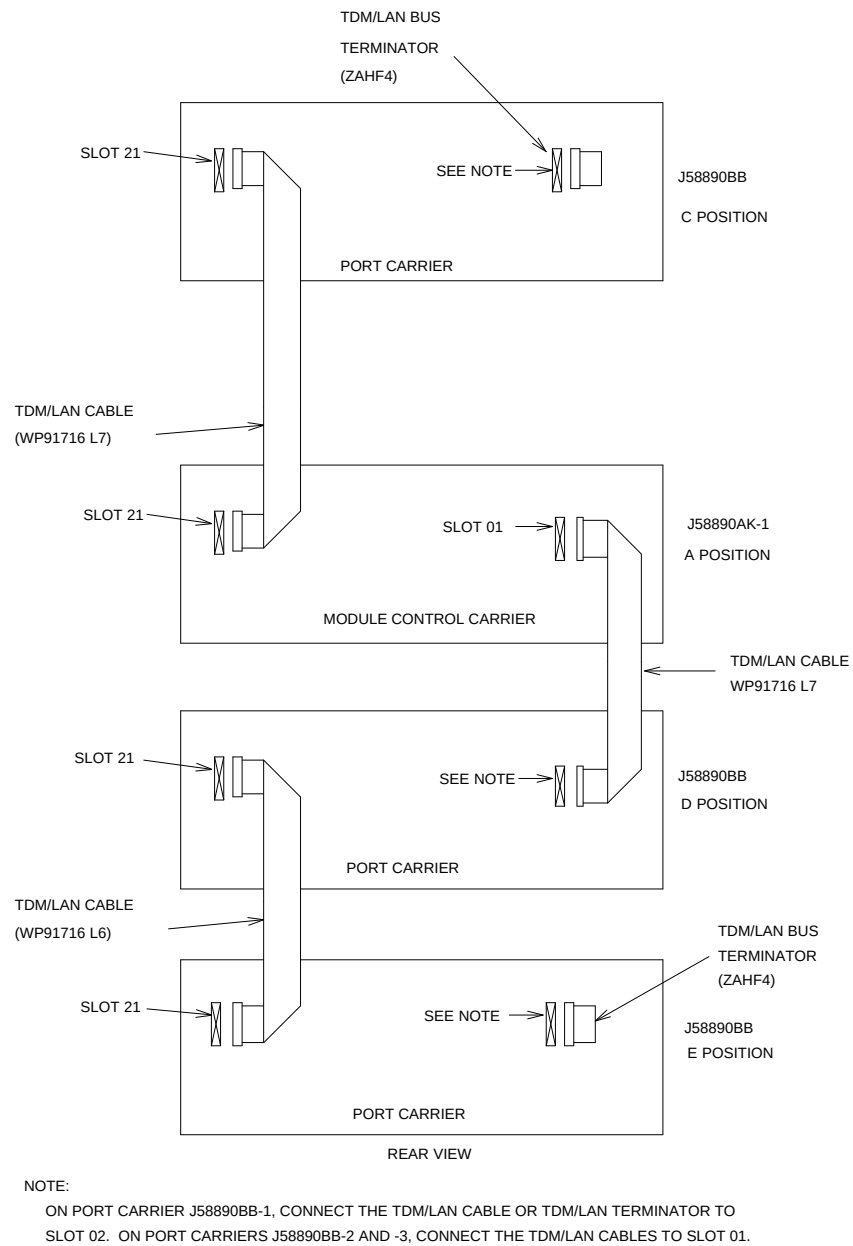

Figure 7-3. TDM/LAN Connections for Standard-Reliability G2 Universal Module
1. See CAUTION and NOTE. Disconnect one end of the TDM/LAN cable (between the "A" and "C" carriers) from the "A" carrier (see Figure 7-3).
2. See CAUTION and NOTE. Disconnect one end of the TDM/LAN cable (between the "A" and "D" carriers) from the "A" carrier (see Figure 7-3).